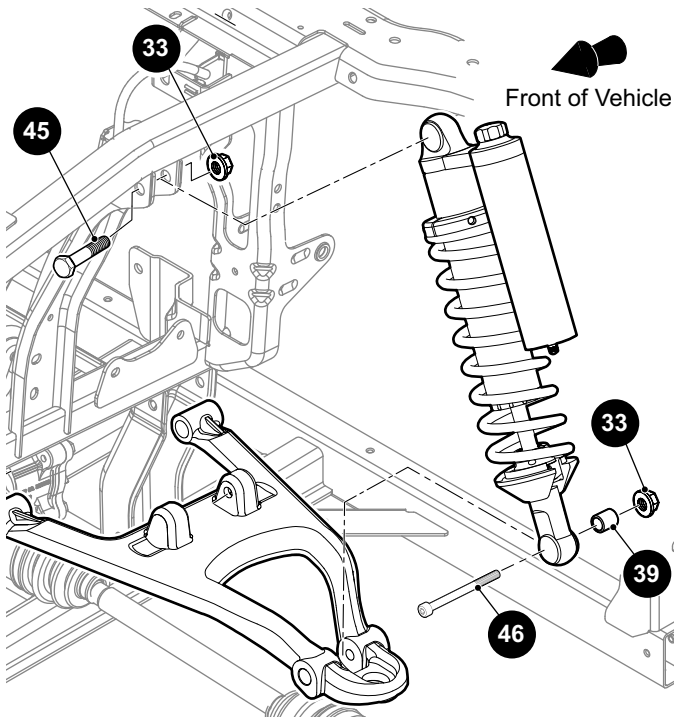

Fig. 13 Upper Strut Bolt
4. Remove the nut (33) and bolt (45) that secure the top of the strut assembly to the vehicle frame (Ref. Fig. 13).